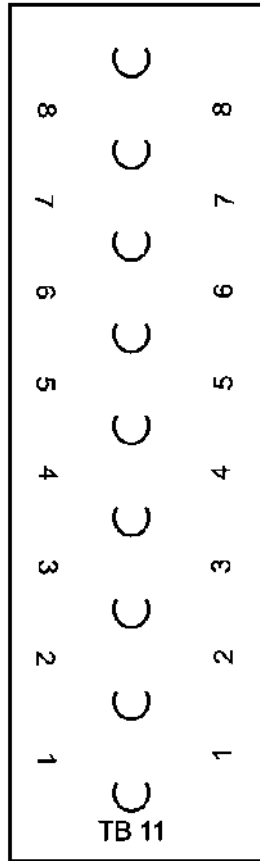

Figure 15-13 Identification of Terminal Board
50. Each terminal board in the aircraft electrical system is identified by the letters TB, followed by a number which is the number of the individual board. Each stud on the terminal board is identified by a number located adjacent to it, with the lowest number in the series at the end nearest the terminal board identification number. (See Figure 15-13.) The identification may be marked on the aircraft structure to which the terminal board is attached or may be on an identification strip cemented to the structure under the terminal board. When a terminal board is replaced, do not remove the identification marking unless it has been damaged. In that case replace the identification marking exactly as in the original, in accordance with the applicable wiring diagram.